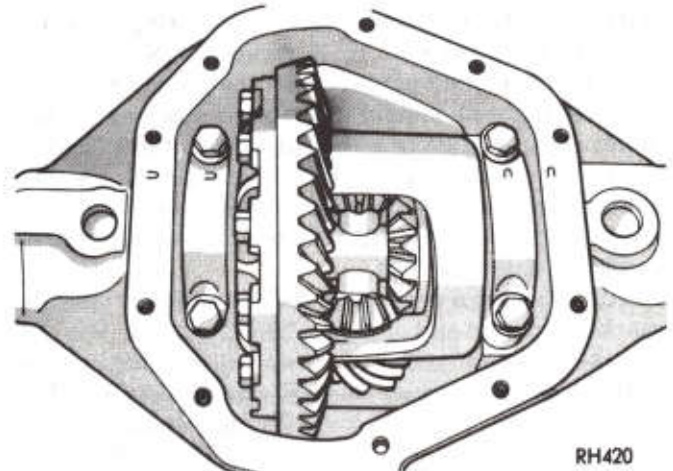

Fig. 42—Differential Installed in Carrier
(16) Install bearing caps. Make sure the letters stamped on the caps correspond with those on the carriers. Tighten bearing cap screws to 80-90 ft. lbs. (108-122 N-m). (Fig. 42).